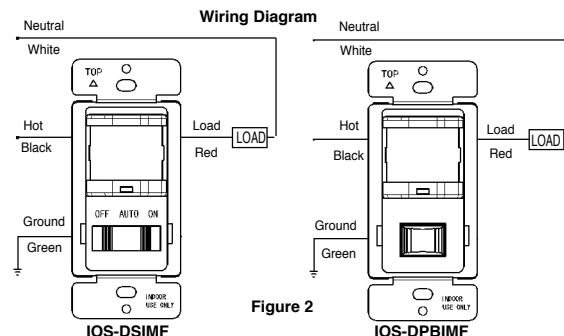

Figure 2
1. Connect lead wires as shown in WIRING DIAGRAM (see Figure 2): Black lead to Line (Hot), Red lead to Load wire, Green lead to Ground.